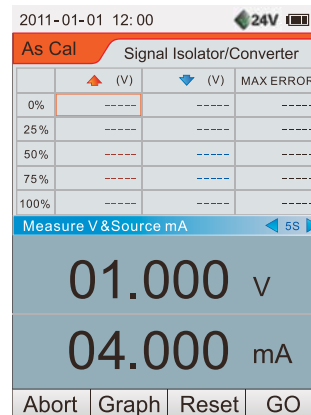

Figure 9.38 Data display
7. In the calibration process, you can press **F2** key to switch the curve and the data interface (Figure 9.38), and the data interface record the calibration information in